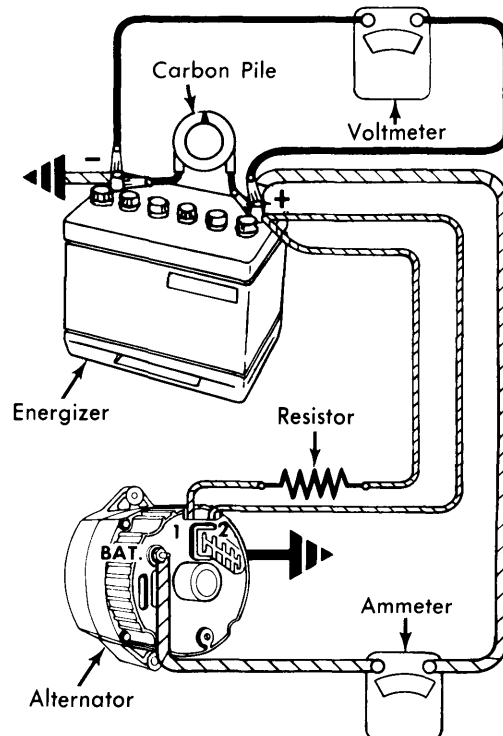

Fig. 3 Bench Test Connections
1) To bench check alternator proceed as follows: Make connections as shown in Fig. 3 except leave carbon pile disconnected. Use a fully charged battery, and a 10 Ohm resistor rated at 6 watts or more between alternator No. 1 terminal and battery. Slowly increase alternator speed and observe voltage. If voltage is uncontrolled with speed and increases above 16 volts, check for a grounded brush lead clip. If brush lead clip is good, replace regulator.